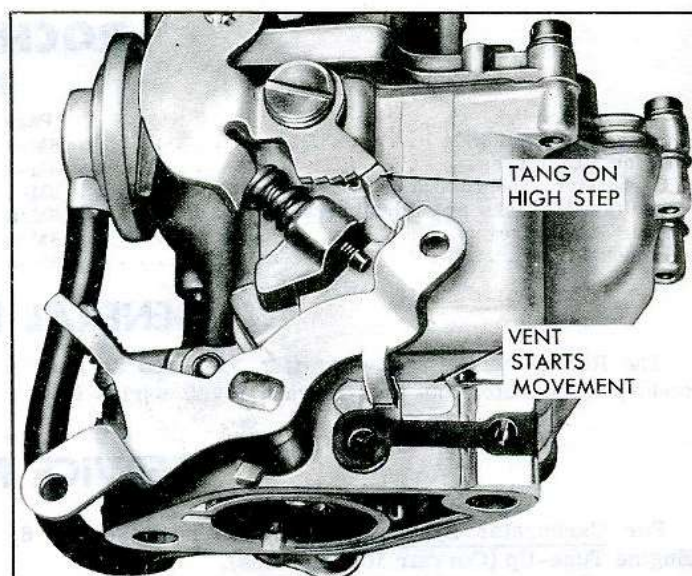

Fig. 17—Vapor Vent Adjustment
- If necessary, adjust by bending throttle lever tang (fig. 17).